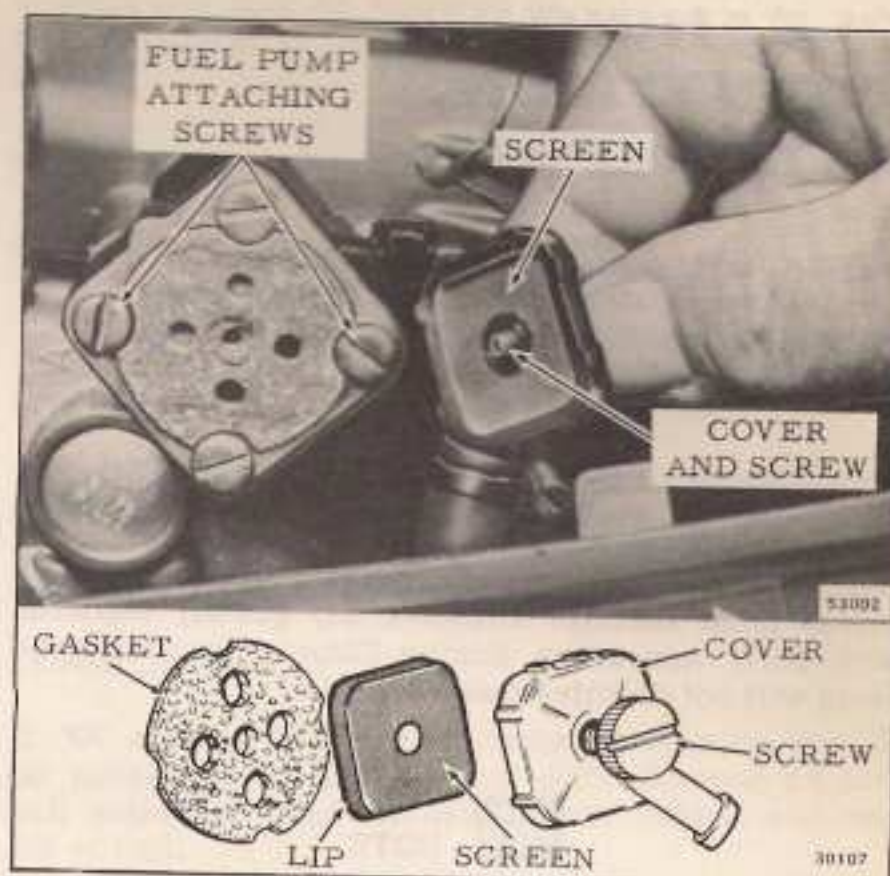

Figure 3-20. Fuel Filter
Before replacing fuel pump, remove and clean the fuel filter and install a new filter element. See Figure 3-20. Also remove the fuel line from the fuel tank and blow through all passages and lines with compressed air to be sure they are open. This may be the cause of inadequate fuel delivery, and if so, would eliminate unnecessary replacement of the fuel pump. If this procedure does not correct the trouble, fuel pump is probably malfunctioning and should be replaced.
- b. To remove fuel filter, remove screw and cover attaching filter to fuel pump. See Figure 3-20.
- c. To remove fuel pump, remove two screws attaching pump to power head, and remove pump assembly. See Figure 3-20.